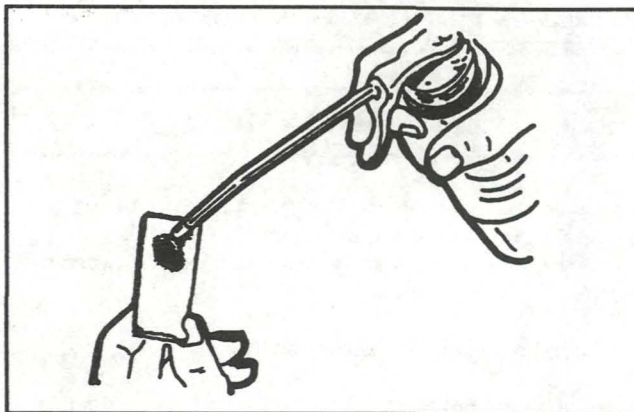

Fig. 29
3. Apply clean SAE 30 oil to the filter (Fig. 29).